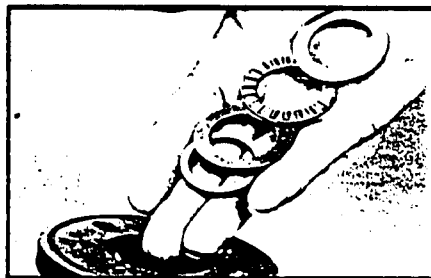

Figure 26
20. Remove and inspect thrust washers (13), thrust bearing (14), and back-up washer (17), again per Step 18. These parts can be retained for reassembly if they pass this inspection, but it is recommended that they be replaced if removed. These are included in the bearing service kit. SEE FIGURE 26.